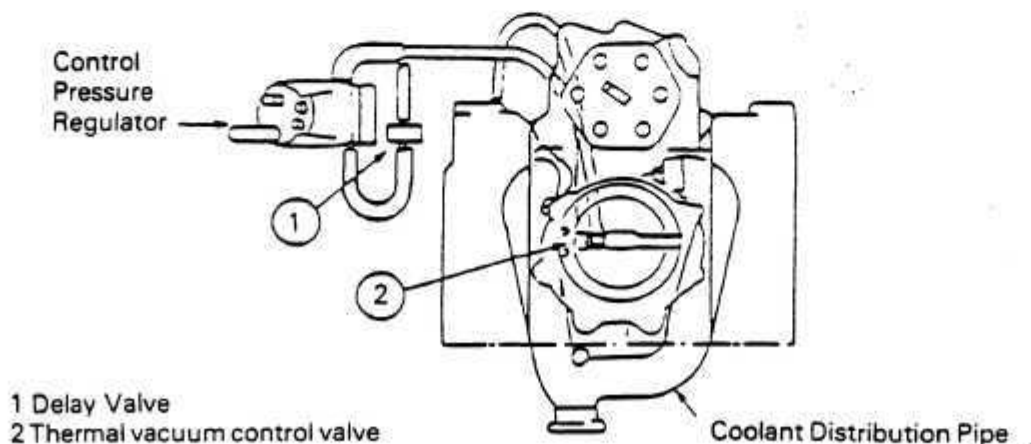

Fig. 14
The thermal vacuum control valve (2) opens at coolant temperatures below 40°C (104°F) to allow manifold vacuum to reach the control pressure regulator. Above 40°C, the acceleration enrichment circuit is inoperative. Fig. 14.